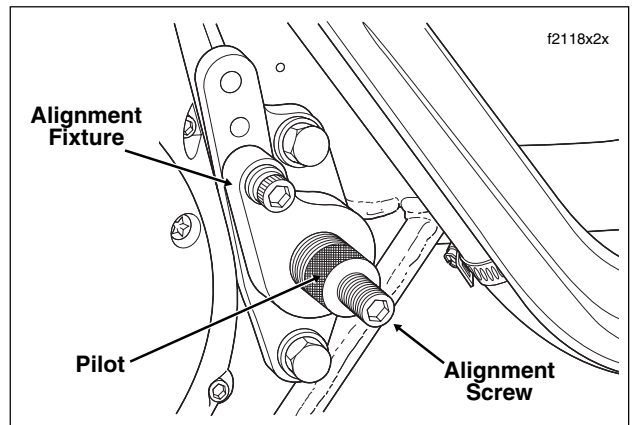

Figure 2-36. Install Vehicle Alignment Tool (Left Side)
- e. Tighten alignment screw to 60-80 **in-lbs** (6.8-9.0 Nm). Repeat step on other side of motorcycle. See Figure 2-36.